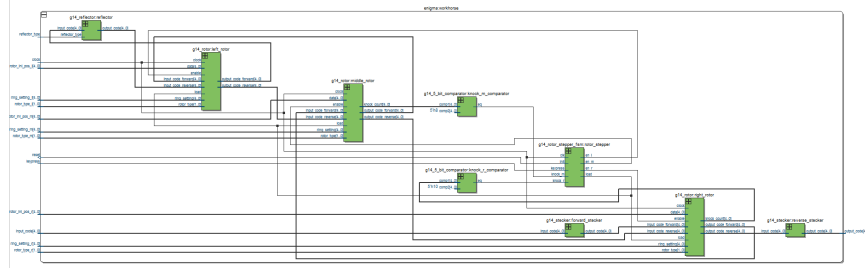
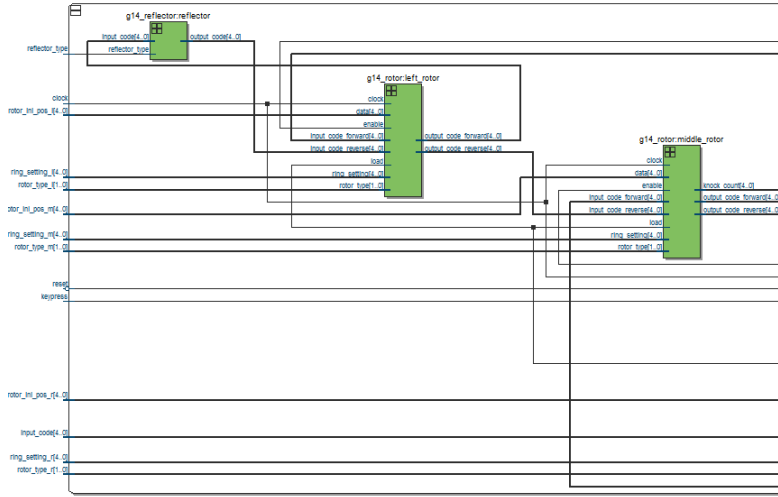

Figure 5: Complete internal block diagram of the Enigma scrambling mechanism. Refer to figures 6 to 8 for a closer look at the components.
Figure 6: A closer look at the components in the left side of the block diagram in figure 5.
Let's first describe the general flow of two things, first the five bit wide *input_code* then the key-press bit. Each of these will be described in the following lists, with heavy references to figures 6 through 8. It is important that the reader sees how these diagrams fit into the overall system diagram of the Enigma in figure 5 before proceeding. In our description of how the input progresses through the circuit, we will ignore the internal architecture and subtleties of the rotors, and simply refer to the outputs as being scrambled versions of the input.
4. This output code is in turn connected to *input_code_forward* of the left_rotor, which can be seen in figure 6. Again, the scrambled output is set to the *output_code_forward*.
5. This signal is the input to the reflector, which can be seen in figure 6. The reflector consists of an invertible mapping of one letter to another, this means that if A as an input yields C as an output, then C as an input yields A as an output. The scrambled output is set at the output code.